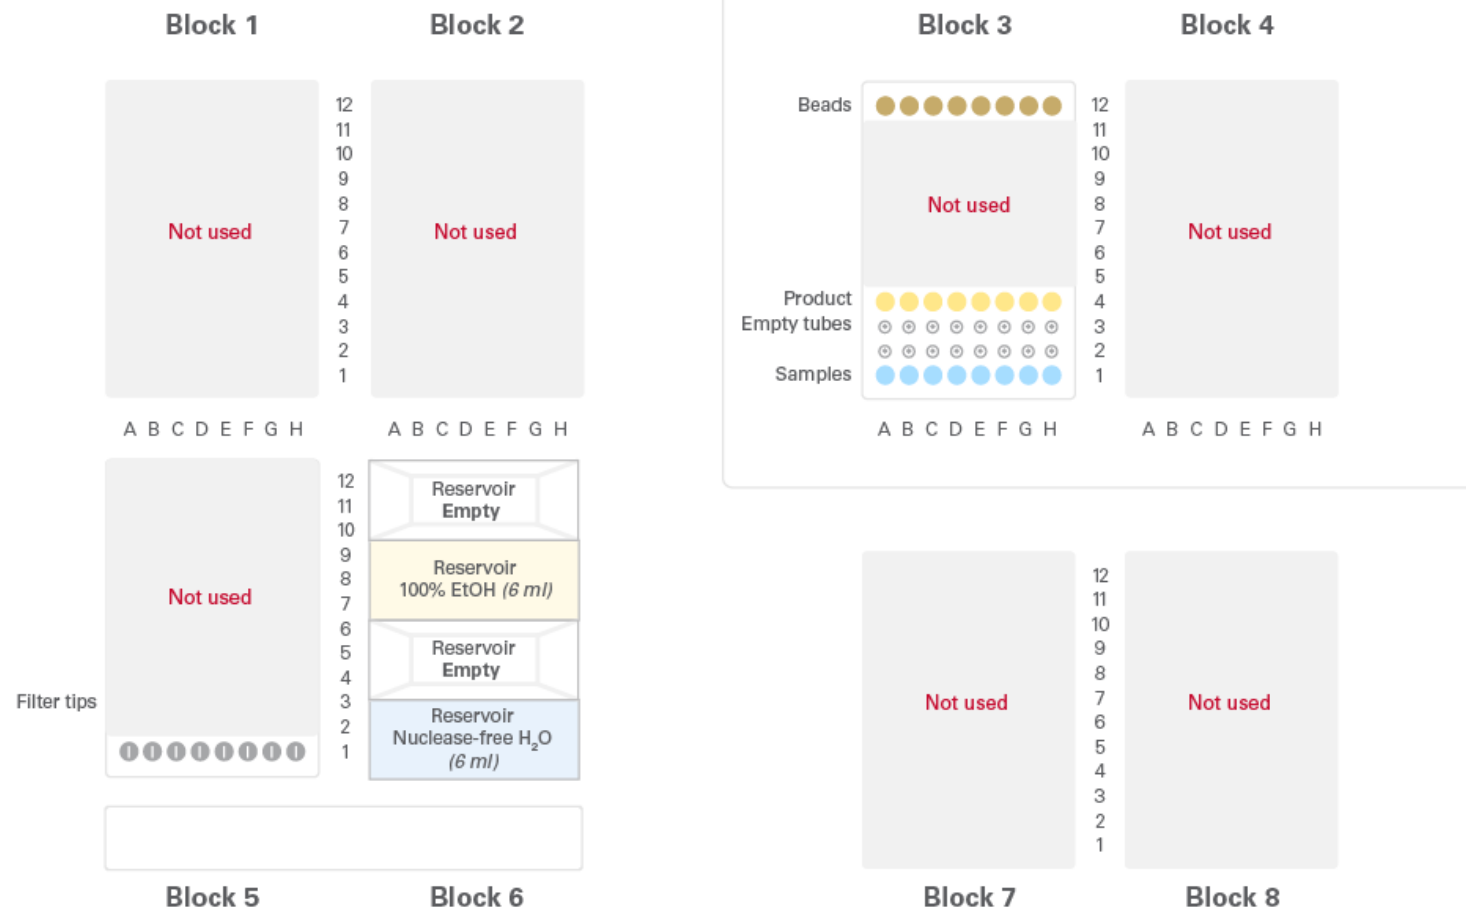

Figure 1. Deck layout for post-PCR cleanup of 8 samples. For this protocol, use script PrepX Cleanup 8. Run time is 16 minutes.
3. Load consumables onto the Apollo system work surface according to the layout in Figure 1. First, load the consumables that do not initially hold reagents (table above). Just before the run, load the consumables containing reagents, but not samples, onto the system.
4. When the **Cooling** indicator has disappeared, and the **Run** button has appeared, load the samples according to the touch screen and the layout shown in Figure 1.